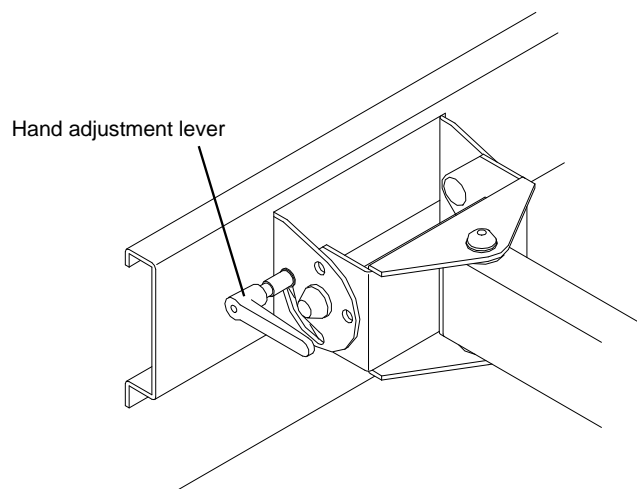

Figure 7
2. The incline/tilt of a component can be adjusted using the **Hand Adjustment Lever(s)**. See **Figure 7**.